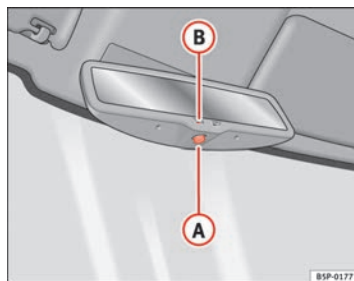

Fig. 90 Automatic anti-dazzle interior mirror.
- Press button **A** ⇒ fig. 90. Indicator lamp **B** goes off.
- Press button **A** ⇒ fig. 90. The indicator lamp turns on.